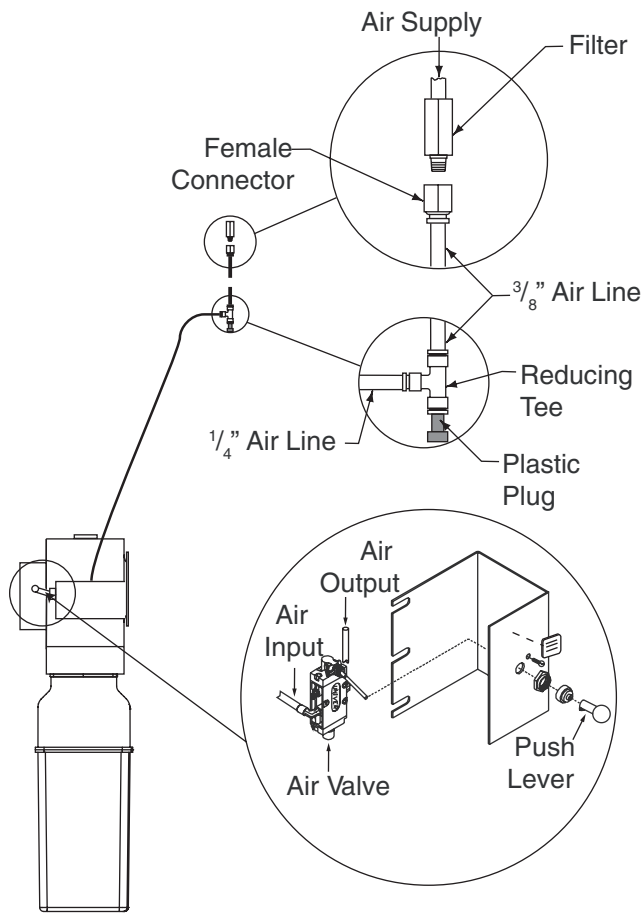

Fig. 24
- A. Connect air valve to Reducing Tee, Fig. 24. Cut provided $\frac{1}{4}$ " air line tubing with sharp blade to length as required. Tubing must be cut square with no burrs.
- B. Use Housing Collar to secure the Air Valve to the Air Valve Bracket, Fig. 24.
- E. Connect Reducing Tee to female connector, Fig. 24, using $\frac{3}{8}$ " air line tubing. Attach filter to female connector and connect into existing facility air supply. Make sure plastic plug is in bottom opening of Reducing Tee.
- H. Actuate air valve and check latch operation on all four (4) corners. When releasing locks, the locking latch should pull back flush with yoke end to clear the latch bar located in all four (4) columns, Fig. 24. Adjust, if required, by removing cotter pin and washer holding Slotted Bracket on locking latch and screwing Slotted Bracket in to move it toward the air cylinder. After adjustment, replace washer and secure Slotted Bracket with a new cotter pin. Tighten jam nut. Apply Loctite® to jam nut to hold in place.